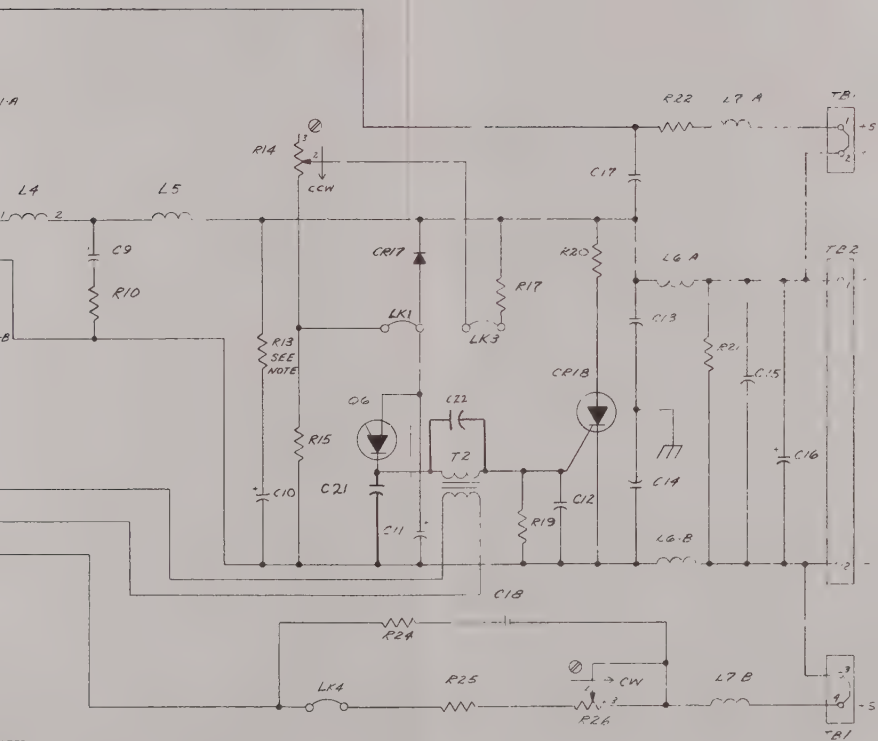

Figure 5-2
1. For units up to 12-volts output; CR12, Q5, VR1, Q6, CR18, or an associated component, (figure 5-2).